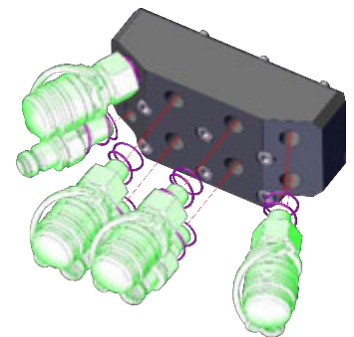

fig 2
3. Install nipple and couplers on to manifold (fig 2)